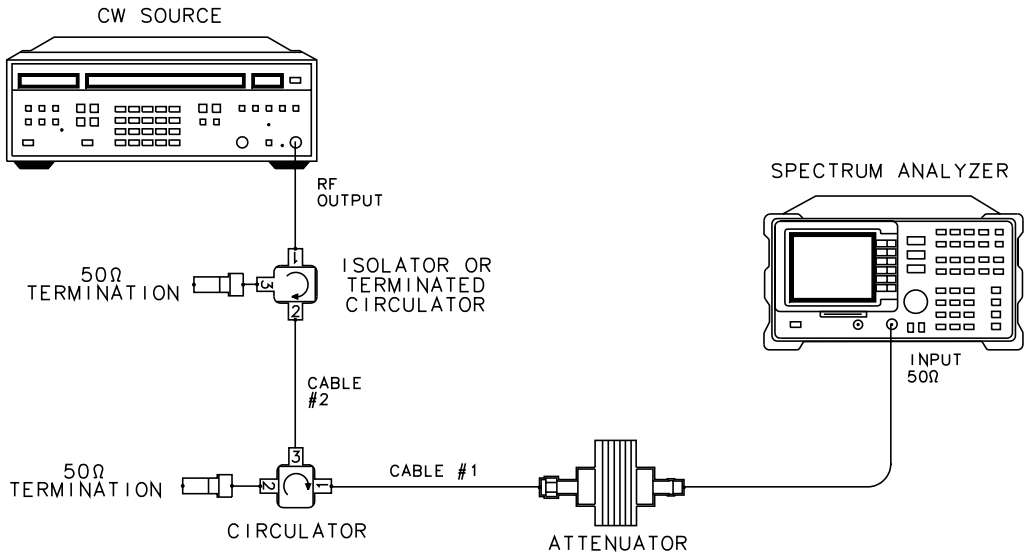

Figure 31 Test Setup for CW Source Adjustment
- 3 Read the text displayed and make the connections described. Refer to Figure 31 on page 73 for the equipment setup.